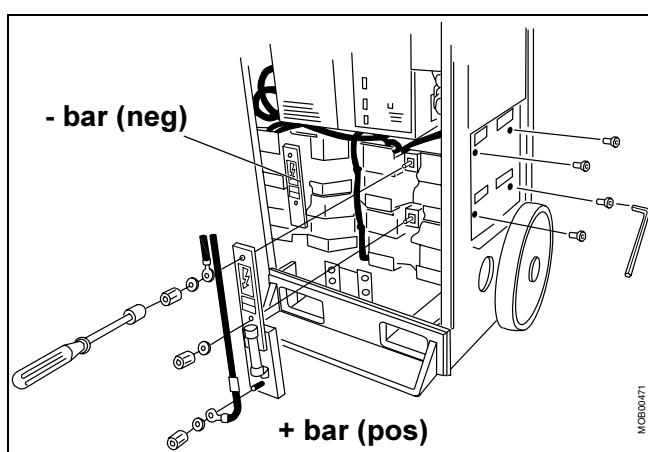
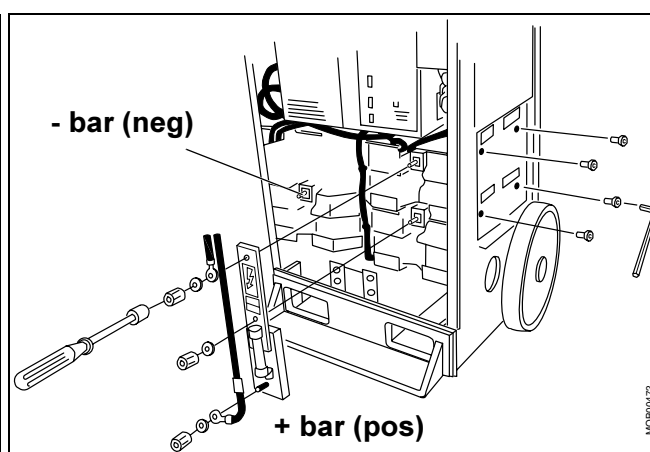
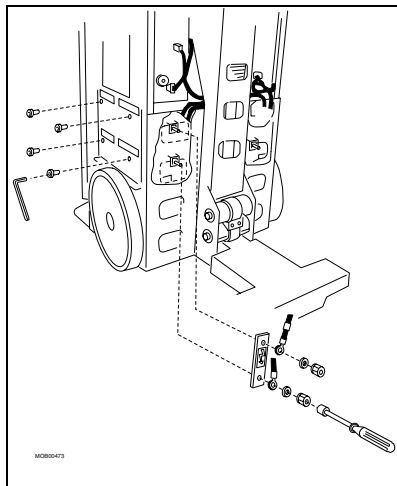

Fig. 7 Removing capacitor bank, Plus/ Plus M
Fig. 8 Removing capacitor bank, Plus E
Fig. 9 Removal of main bars
7. Measure the voltage between the + and - bars. The voltage must be less than 10 V (Fig. 7 - Plus/ Plus M), (Fig. 8 - Plus E).
9. Remove the main bars on the patient's side (Fig. 9) and the operator's side (Fig. 7 - Plus/ Plus M), (Fig. 8 - Plus E).